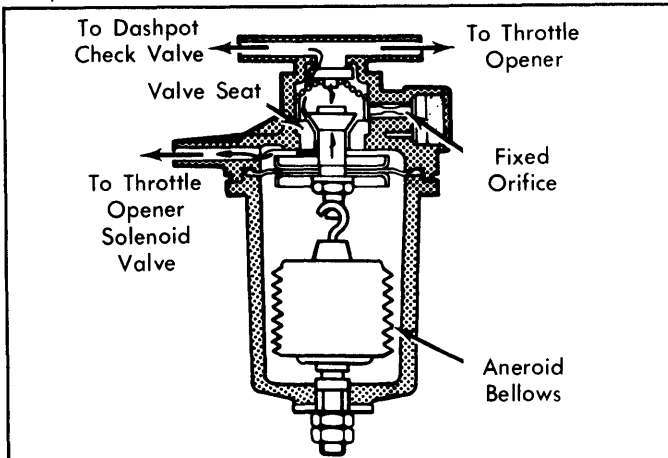

Fig. 4: Throttle Control Valve (High Altitude)
**High Altitude Models** - This control valve is similar to the valve used on California applications, except that tension on the diaphragm is controlled by an aneroid bellows, which is sensitive to altitude (atmospheric pressure). See Fig. 4.